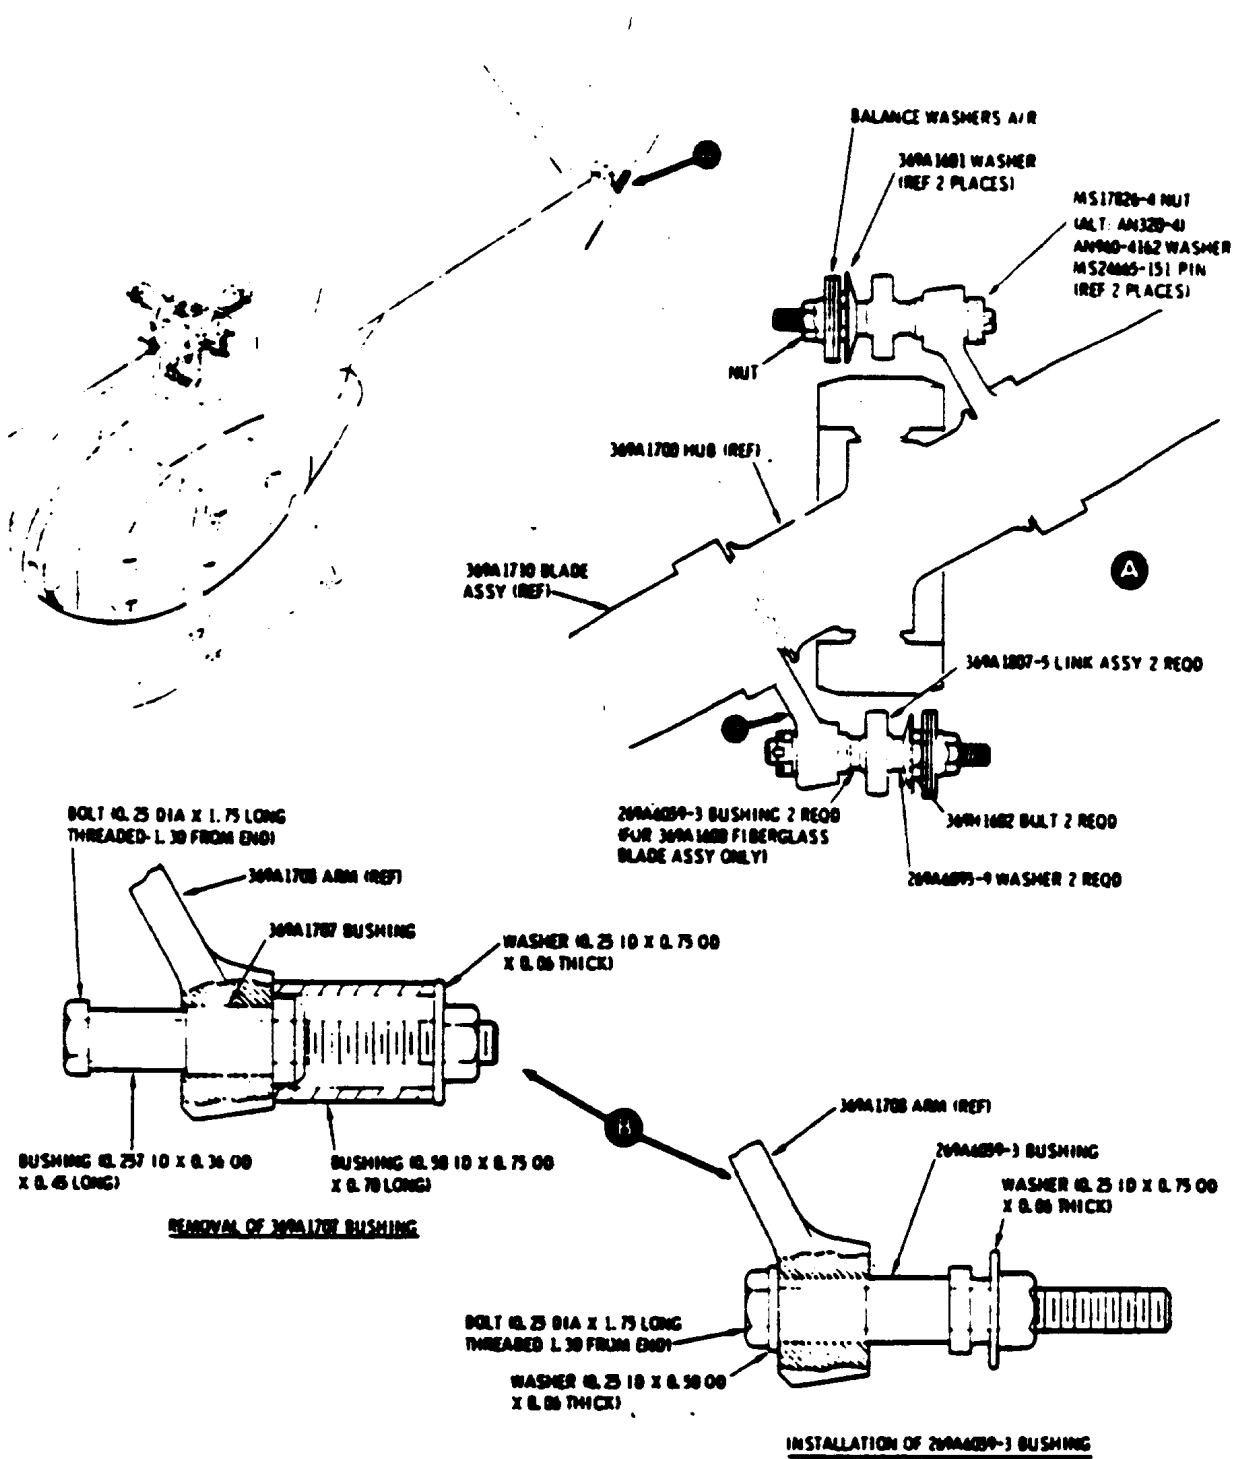

Figure 1. Replacement - Tail Rotor Link Assemblies
- (3). Replace existing 369A1707 bushing in each pitch control as follows:
- (a). Assemble bolt, bushings, washer and nut on pitch control arm as shown in Figure 1; tighten bolt to remove 369A1707 bushing
- (b). Assemble bolt, washer, new 269A6059-3 bushing, washer and nut, as shown in Figure 1; tighten nut to seat bushing in arm. Install bushing with wet zinc chromate primer.